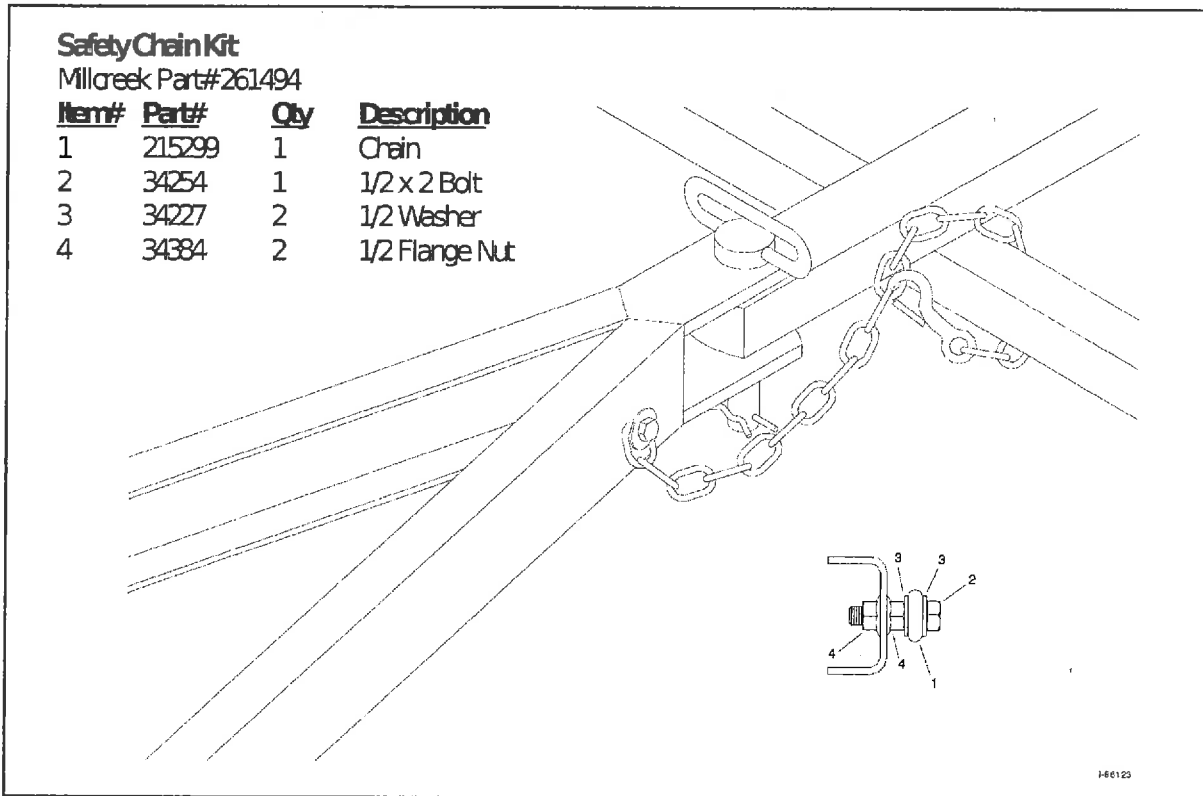

Figure B3 - Attaching the Safety Chain
1. Refer to Figure B3 for an illustration of the hook-up of the safety chain.